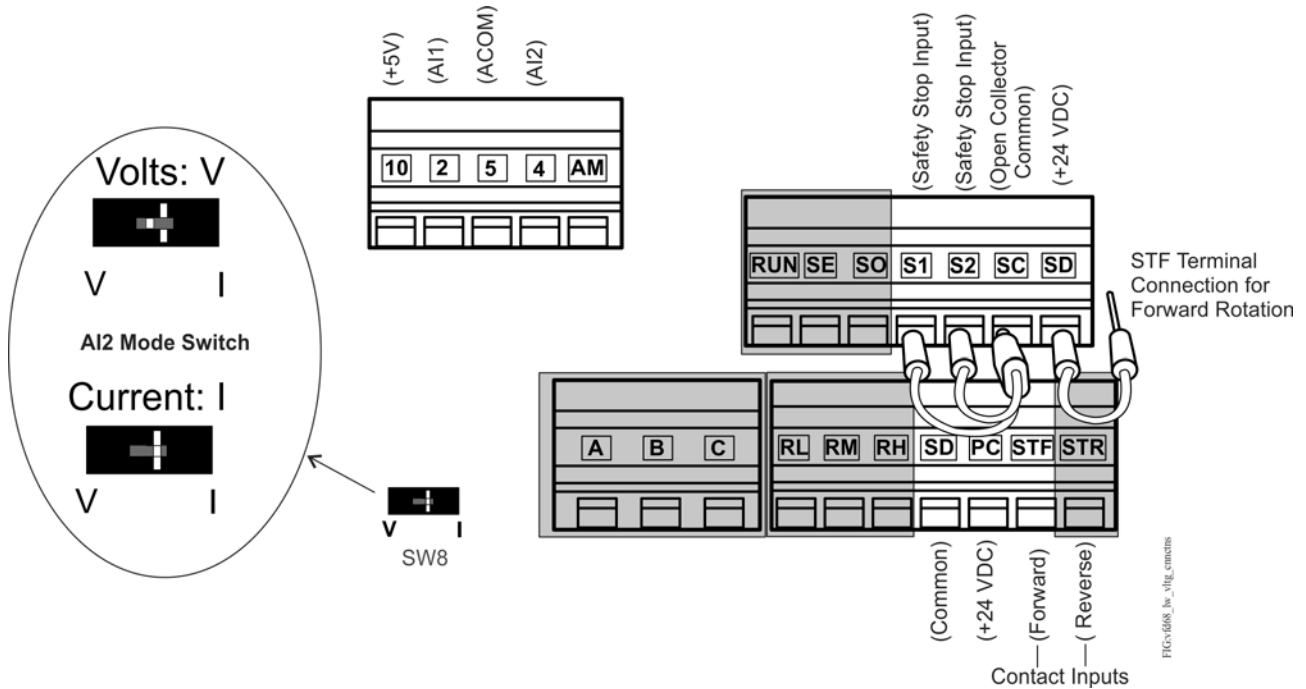

Figure 12: VFD68Bxx and VFD68Cxx Drives Low-Voltage Connections
Low-voltage wiring terminals are located underneath the front cover. See Figure 12 and Table 16.
2. See Figure 12 on page 19.
- ensure that the AI2 mode switch (Figure 12 on page 19) is set correctly